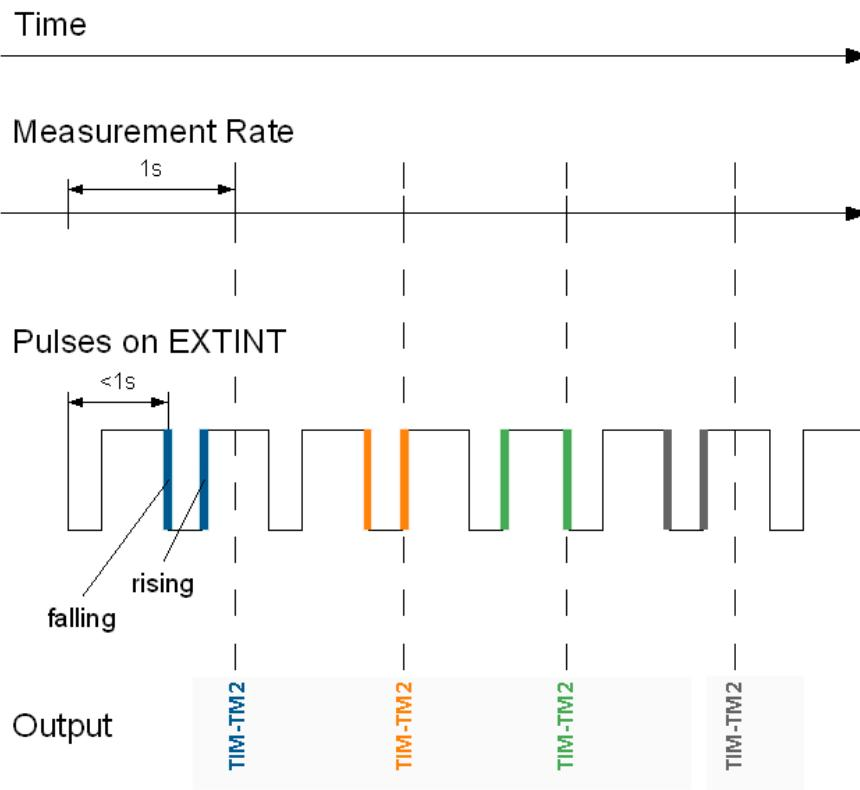

Figure 24: Timemark
- Only the last rising and falling edge detected between two epochs is reported since the output rate of the UBX-TIM-TM2 message corresponds to the measurement rate configured with CFG-RATE-MEAS (see Figure 24 below).